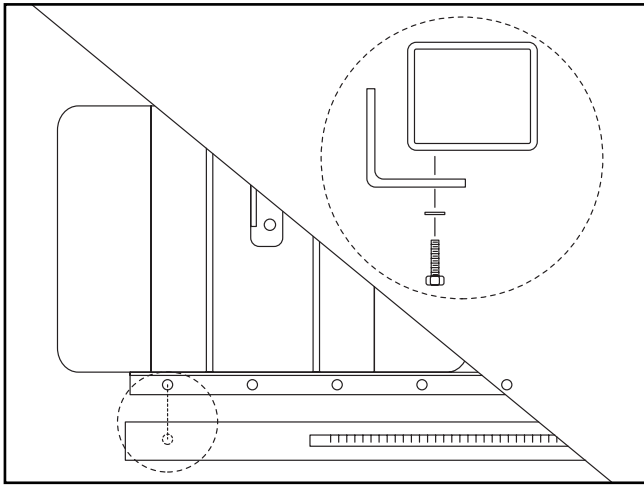

Figure 10A. Attaching fence tube to front rail.
- Attach the square fence tube to the front rail using the hex bolts and lock washers as shown in **Figure 10A**.